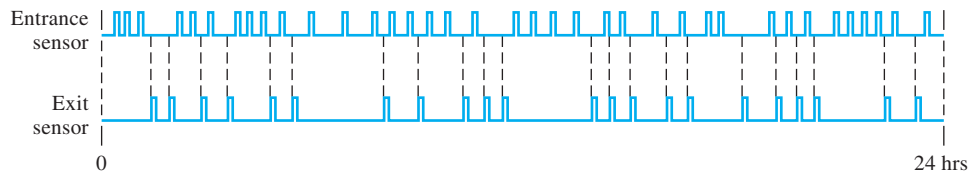

FIGURE 9-78
35. For the automobile parking control system in Figure 9-51, a pattern of entrance and exit sensor pulses during a given 24-hour period are shown in Figure 9-78. If there were 53 cars already in the garage at the beginning of the period, what is the state of the counter at the end of the 24 hours?